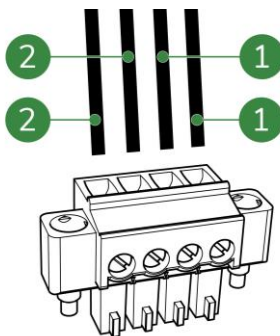

Figure 5-26: PT100 wiring for block-form connector
- b. Put the 2 sense high wires (Figure 5-26, pos. 1) into the 2 right cable entries.
- c. Put the 2 sense low wires (Figure 5-26, pos. 2) into the 2 left cable entries.